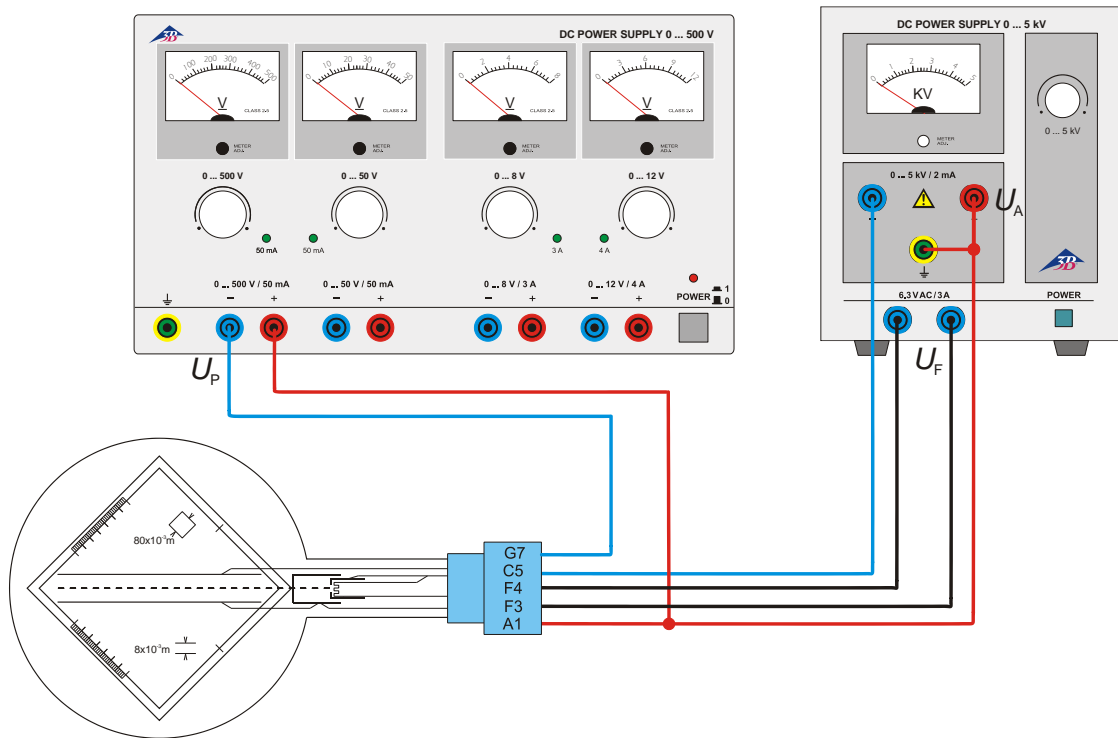

Fig. 3 Electric deflection
- Set up the tube as in Fig 3.